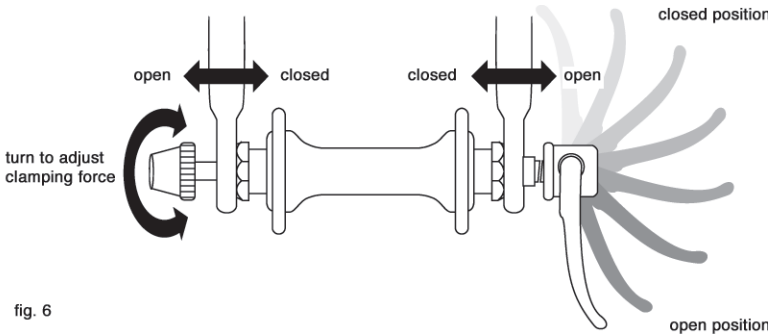

fig. 6
The wheel quick release uses a cam action to clamp the bike's wheel in place (see fig. 6). Because of its adjustable nature, it is critical that you understand how it works, how to use it properly, and how much force you need to apply to secure the wheel.
(3) Holding the quick-release lever in the OPEN position with your right hand, tighten the tension adjusting nut with your left hand until it is finger tight against the fork dropout (fig. 6).
(4) While pushing the wheel firmly to the top of the slots in the fork dropouts, and at the same time centering the wheel rim in the fork, move the quick-release lever upwards and swing it into the CLOSED position (fig. 6 & 7a). The lever should now be parallel to the fork blade and curved toward the wheel. To apply enough clamping force, you should have to wrap your fingers around the fork blade for leverage, and the lever should leave a clear imprint in the palm of your hand.
(1) Make sure that the rear derailleur is still in its outermost, high gear, position
(2) Pull the derailleur body back with your right hand.
(3) Move the quick-release lever to the OPEN position (see fig. 6). The lever should be on the side of the wheel opposite the derailleur and freewheel sprockets.
(4) Put the chain on top of the smallest freewheel sprocket. Then, insert the wheel up and back into the frame dropouts and pull it all the way in to the dropouts.
Some bikes are equipped with a quick-release seat post binder. The seatpost quick-release binder works exactly like the wheel quick-release (Section 4.A.1) While a quick release looks like a long bolt with a lever on one end and a nut on the other, the quick release uses a cam action to firmly clamp the seat post (see fig. 6).